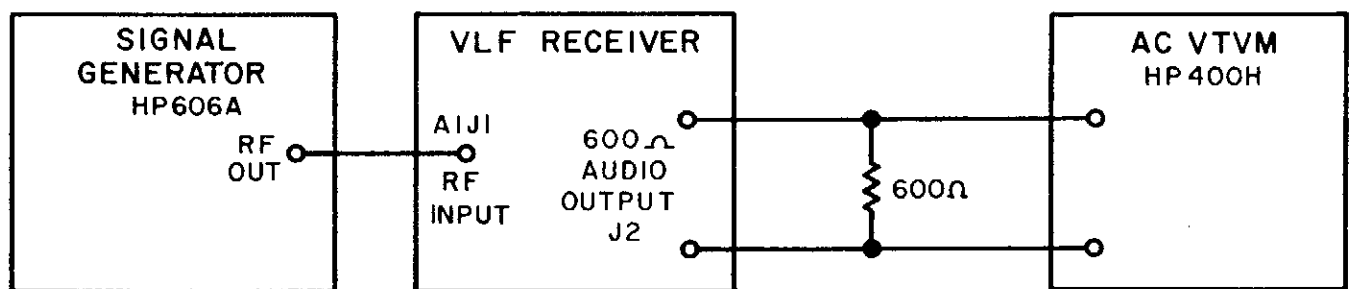

Figure 4-3. Equipment Setup, Audio Output Adjustment
- (1) Set up equipment as shown in Figure 4-3.
- (2) Make the following initial settings:
- (3) Adjust A7 R4 for 1.92 volt rms reading (6 mW into 600 $\Omega$  load) on AC VTVM.
- (2) Make initial receiver and signal generator settings as given in paragraph 4.5.8 (2) except AUDIO BW switch is placed in the NARROW position.
- (3) Adjust L1 on main chassis for maximum output as indicated on AC VTVM, then back off adjustment by 10% in the opposite direction. Peak output reading should remain the same.